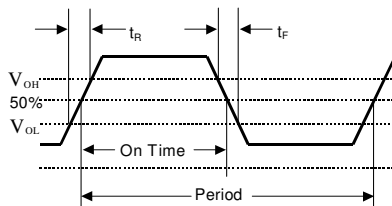
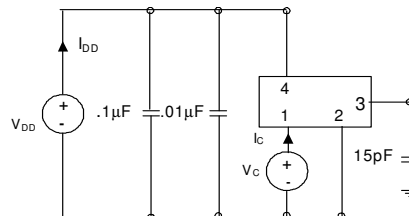

Figure 1: Output Waveform
Figure 2: Typical Output Test Conditions (25±5°C)
2. Parameter is defined in Figure 1 and tested as shown in Figure 2.
3. Symmetry is defined as On Time/Period (Figure 1).